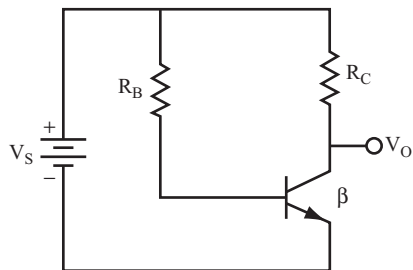

FIGURE 3.30
2. Draw the paths taken by the base and collector currents, as shown in Figure 3.30.
Use the circuit in Figure 3.30 to answer questions 5 through 10.